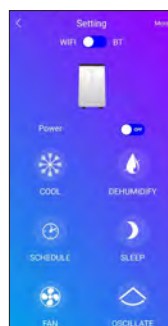

fig.3
Step 5. After connecting successfully, the WIFI indicator on control panel will be lit green. The app can then be used to set schedules, change modes, and more (fig.3).